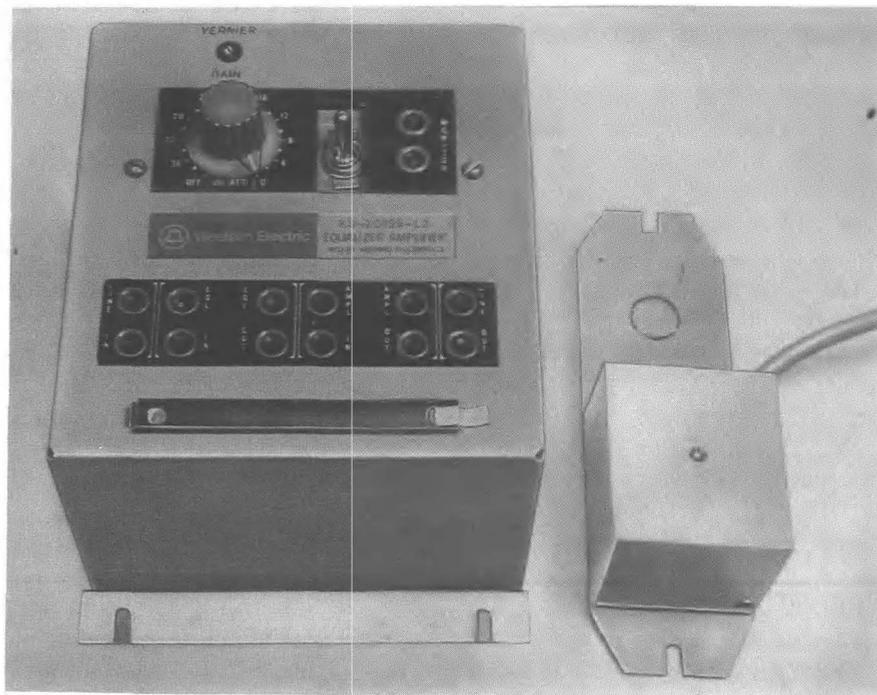

Fig. 1—KS-20159 L2 Equalizer-Amplifier With Cover and L8 Power Supply Assembly
- (1) To add Note to 1.01
- (2) To revise Fig. 1 and 3
1.01 The KS-20159 L1 equalizer-amplifier has been manufacture discontinued and replaced by the KS-20159 L2 equalizer-amplifier. The equalizer-amplifier (Fig. 1) is used to provide equalization and amplification for 5-, 8-, and 15-kHz local program circuits utilizing nonloaded single-gauge or multigauge cables. The equipment is intended primarily as a line equalizer and amplifier for use on studio-to-transmitter loops and temporary pickup loops, but may also be used in other high-quality applications. The amplifier is transistorized, and operates on 48 Vdc. The KS-20159 L9 amplifier board and KS-20159 L10 equalizer board are available for repair or spare part purposes. Later KS-20159 L2 equalizer-amplifiers come equipped with KS-20159 L9 and L10 boards.